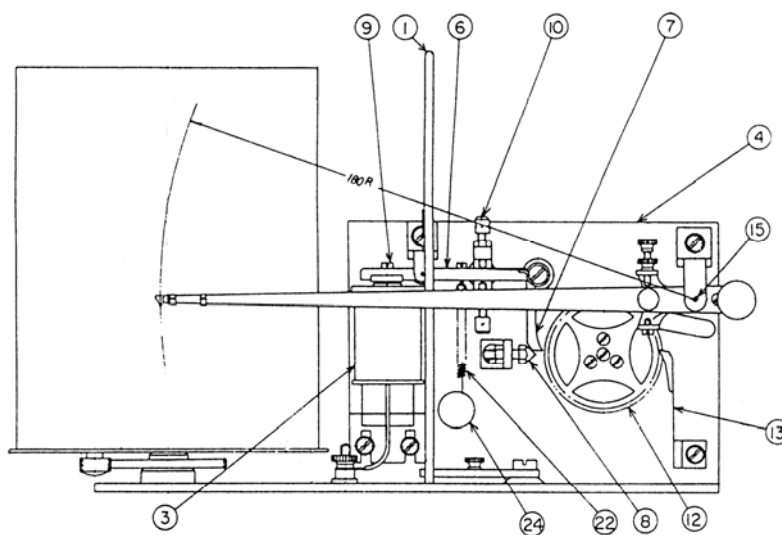

Figure 6.9 Recorder(Front view)
#### (2) Structure and Principles of Operation (Figures 6.9 and 6.10)